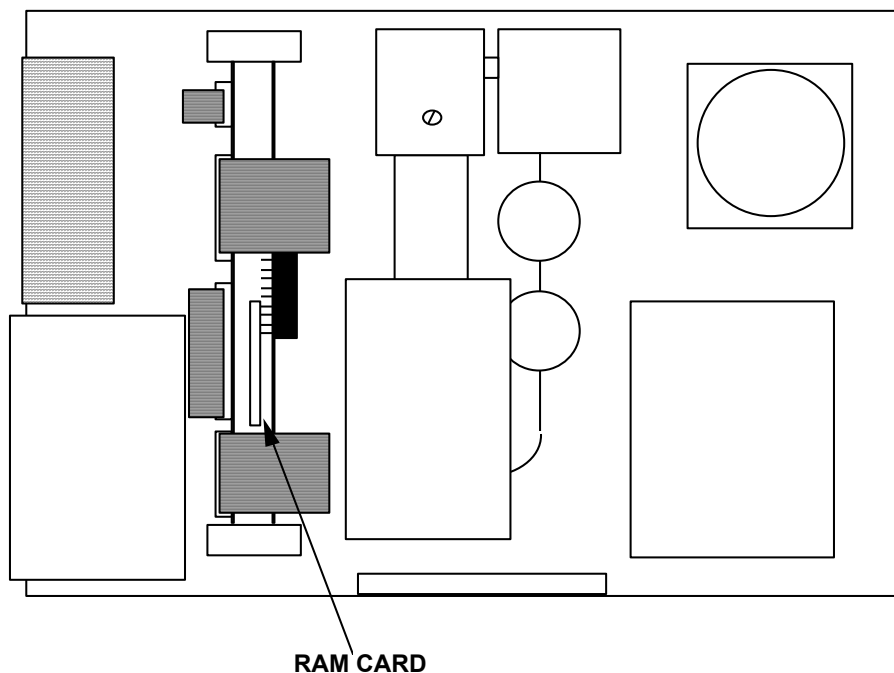

FIGURE 11-1: Location of RAM Card
2. Locate the RAM card (white with black trim) that extends out of the circuit board, to the left of the CO₂ sensors (see Figure 11-1). Remove the RAM card by pulling it straight up out of the socket.